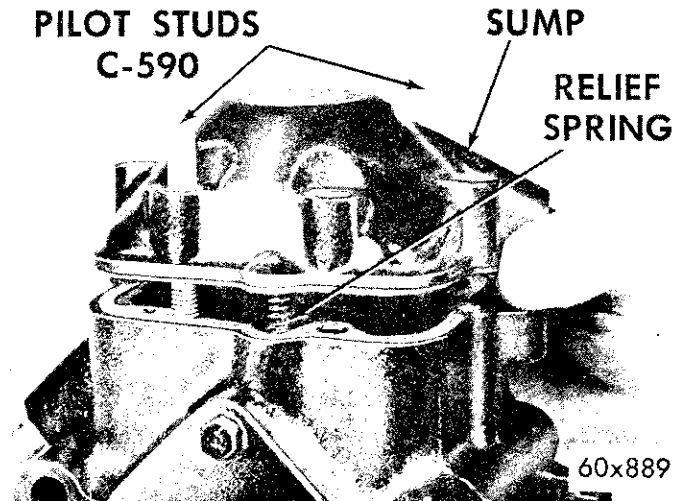

Fig. 57—Installing Sump
(1) Remove bearing cap and install piston in bore. Use piston ring compressor to prevent ring damage.
(2) Install bearing caps, and tighten screws 52 to 56 inch-pounds torque. Be sure each cap is installed in its original position.
(3) Install valve plates and cylinder heads.
(4) Turn compressor upside down. Install pilot studs, gasket, oil pressure relief ball and spring.
(5) Install sump over pilot studs (Fig. 57), making sure that oil pressure relief spring depresses uniformly as sump is lowered on case.
(6) Tighten sump bolts finger tight to prevent spring misalignment, then tighten 15 to 19 foot-pounds torque.